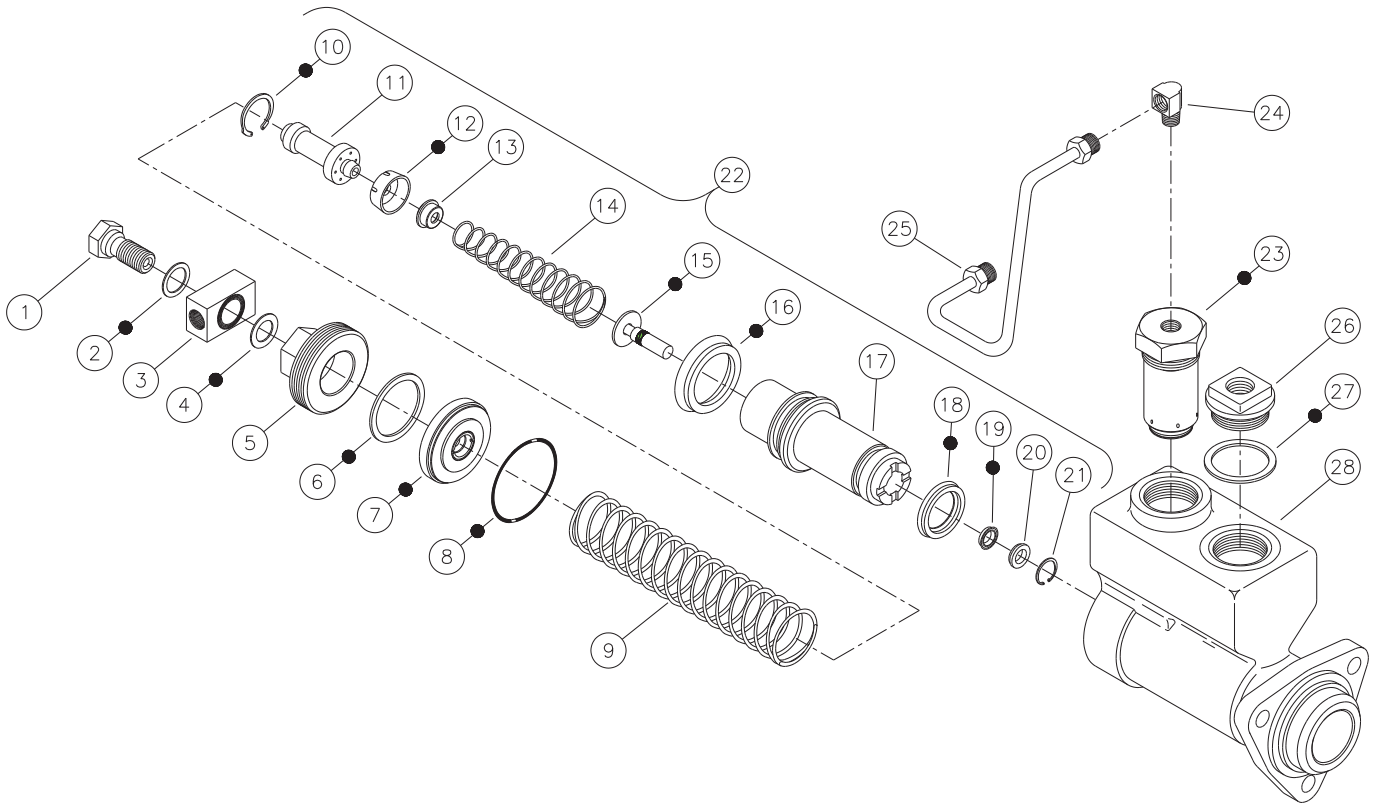

FIGURE 4
13. Assemble new gaskets (2 & 4), fitting block (3), and line bolt (1) into end plug (5). Torque line bolt (1) 47.5-61.0 N·m (35-45 lb·ft). **NOTE: Hold fitting block (3) in a fixed position as shown in Figure 4 while tightening line bolt.**
14. Install upper tube nut on tubing assembly (25) into fitting (24). Torque upper and lower tube nuts 12.2-20.3 N·m (9-15 lb·ft).
15. Install new gasket (27) and filler cap (26) on housing (28). Torque filler cap (26) 33.9-47.5 N·m (25-35 lb·ft).